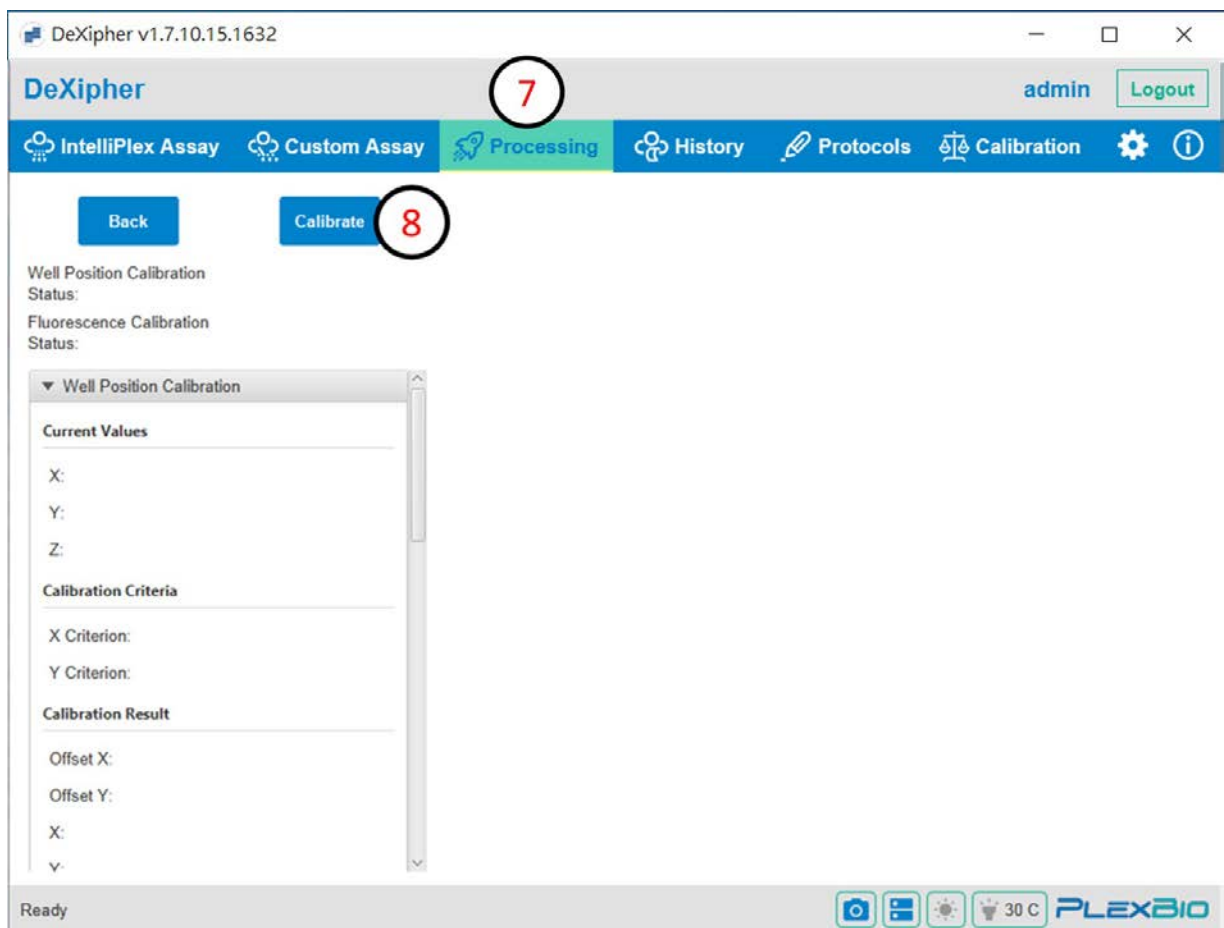

Fig. 47. Processing tab in Calibration
7. By clicking “Go to Calibrate”, the tab will automatically switch to **Processing tab** (Fig. 47).